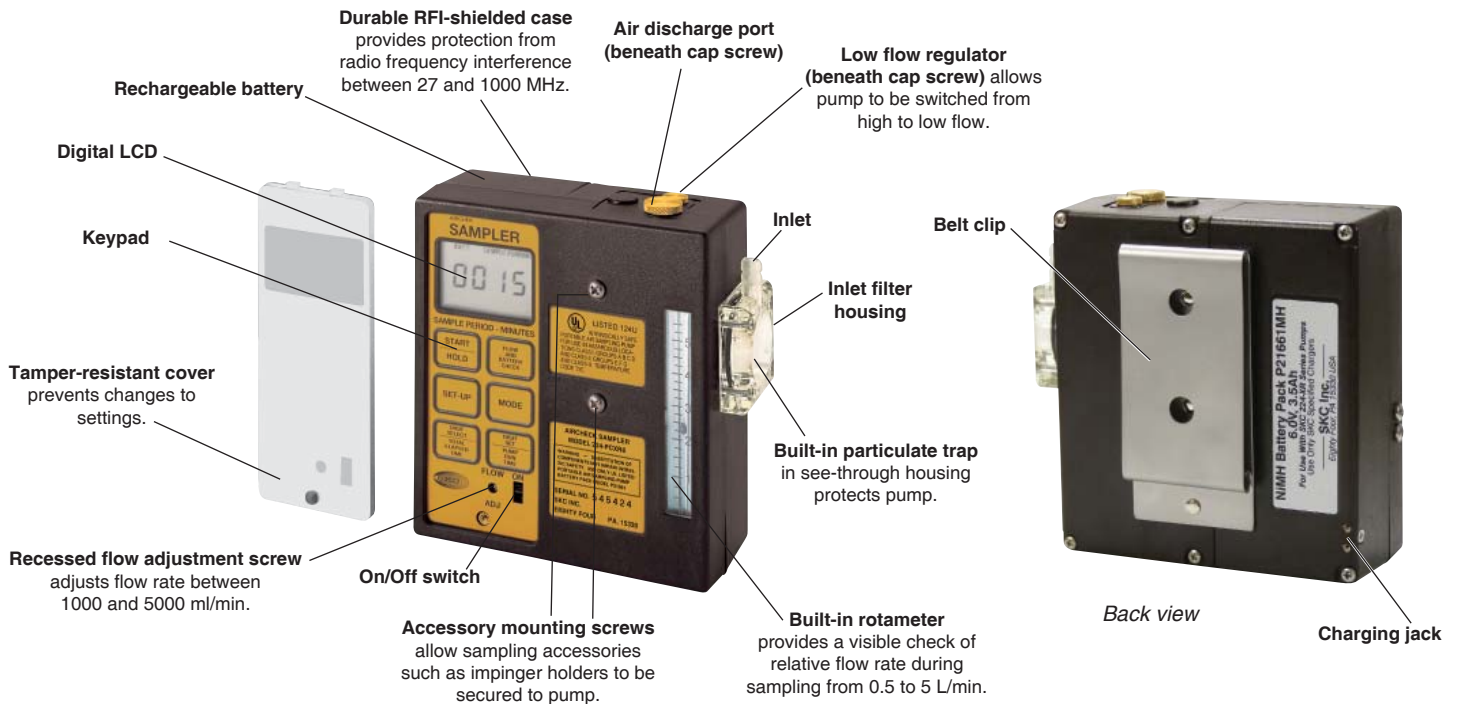

Figure 1. Front and Back Views of PCXR8 Universal Sample Pump
The PCXR8 Universal Sample Pump (Figure 1) is a constant flow (from 5 to 5000 ml/min) air sampler suitable for a broad range of applications. It is ideal for industrial hygiene studies as well as environmental testing.
3. Insert the charging plug end of the cable into the jack on the back of the pump's battery pack (Figure 1).
Turn Pump Power On/Off (Figure 1)
1. To ensure the pump is set for high flow, remove the cap screw (*Figure 1*) covering the regulator valve and turn the exposed screw **clockwise** until it stops. Do not overtighten. *See right.*
7. Press Flow and Battery Check to start the pump. Set the flow rate using the flow adjustment screw (*Figure 1*) until the calibrator indicates the method-specified flow rate. Take a minimum of three readings and record the average flow rate, as per OSHA/NIOSH instructions.
- b. **When using impingers, an in-line trap (SKC Cat. No. 225-22 or 225-22-01) is required to prevent fumes from accidentally being drawn into the sampler.** Place the in-line trap between the pump and the impinger. Mount the impinger and trap to the face of the sampler using the accessory mounting screws (Figure 1) or place them in a holster at the worker's waist.
- c. **When using the pump for pressure applications such as bag sampling**, thread the exhaust port fitting supplied with the pump into the air discharge port on top of the pump (Figure 1); hand-tighten only. Using PTFE tubing, connect the inlet of the sample medium (e.g., sample bag) to the exhaust port fitting on the pump. Turn on the pump to collect the appropriate volume of air. Shut off the pump and close inlet on sample medium to stop sampling.
3. With the LCD displaying HOLD, start sampling by pressing Start/Hold (Figure 1). If a delayed start has been programmed, DELAYED START will flash on the LCD and the amount of time remaining until sampling starts will count down. SAMPLE RUNNING will be displayed when the delay sequence ends. Record the start time. The elapsed sampling time will be shown on the LCD.